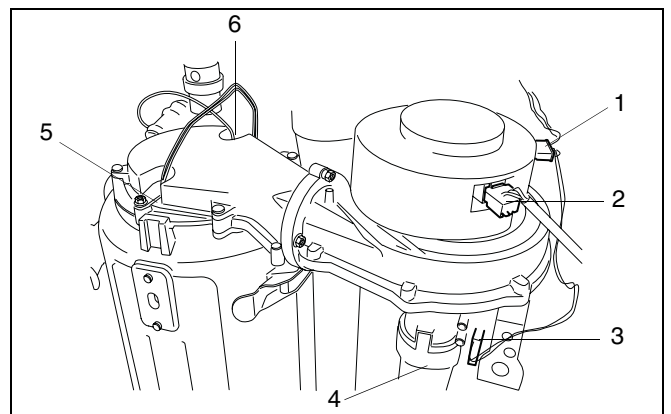

fig. 61 Remove connectors of the gas air unit
- Remove the connectors (fig. 61, item 1, 2 and 3) from the gas air unit.
- Remove the air silencer from the gas air unit (fig. 61, item 4).
- Then remove the connectors of the ionisation electrode (fig. 61, item 6) and the glow ignitor (fig. 61, item 5).